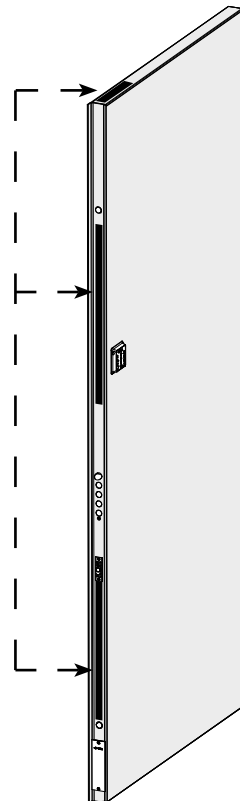

Fig. 3
4. Position the Door Status device as shown in Fig. 3.